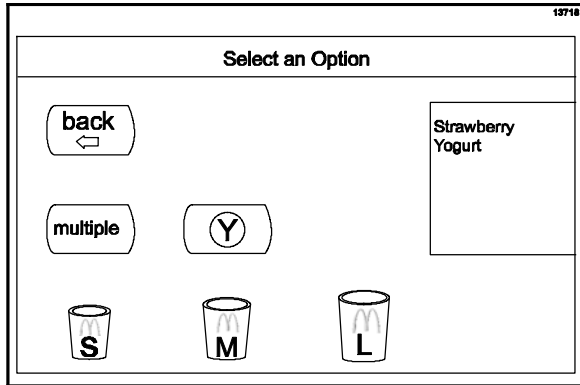

Figure 14
- To dispense multiples of the same drink, press the “multiple” key. (See Figure 14.)